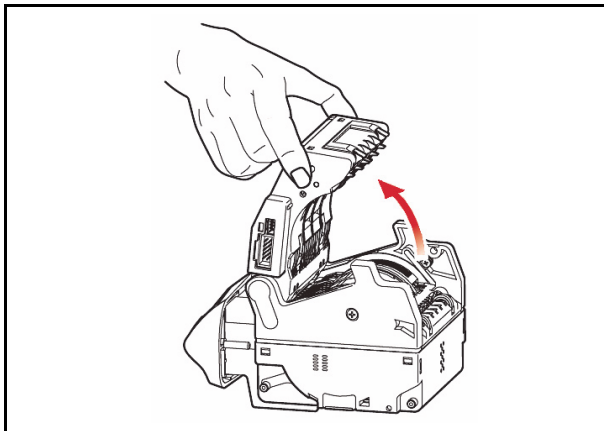

Figure 2-2 Opening Taiko's Upper Lid
2. Open the Upper Lid in the arrow direction shown in Figure 2-2 by pressing in on the Upper Lid Open/Close Buttons.